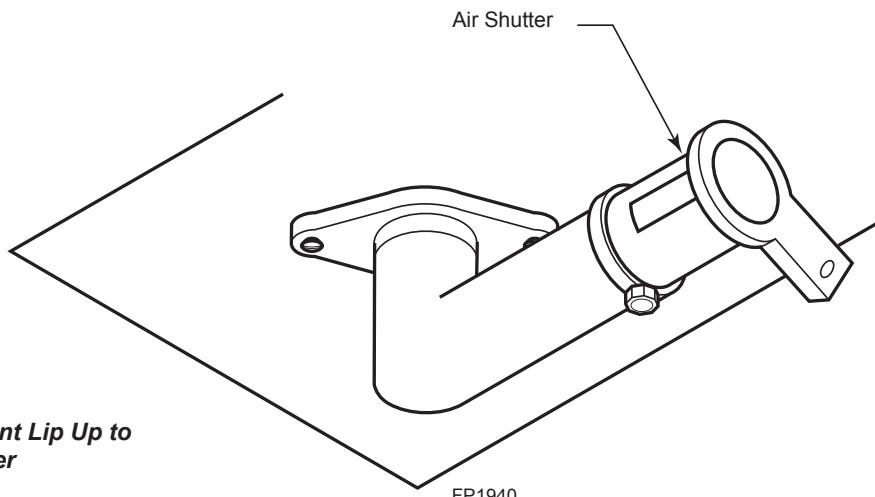

Figure 38 -
2. Remove log support bracket by removing two (2) screws in rear and one (1) screw on each side wall.
3. Remove four (4) screws holding burner in place and slide burner to the left and up and out of unit, allowing access to venturi air shutter.
- To increase air mixture, open the shutter more. This will reduce soot formation. *Figure 38*